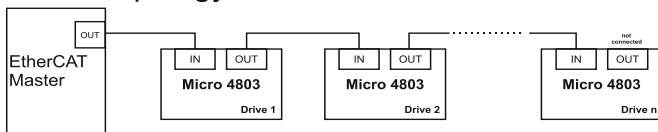

Figure 3-71 EtherCAT network linear topology
- Linear, when the OUT port of the last drive in the chain remains not connected. Master is connected to IN port of the first drive; OUT of the first drive is connected to IN of the following drive; OUT of the last drive remains unconnected. See *Figure 3-71* for a visual representation of the linear topology.